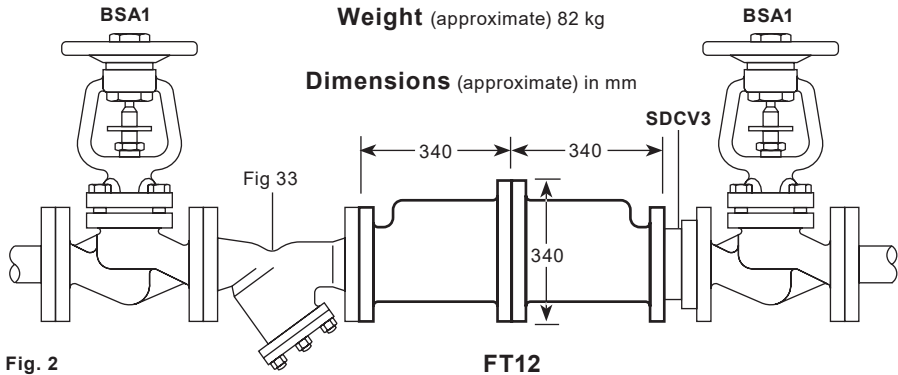

Fig. 2
- 3.4** The trap is designed for installation in a horizontal plane. A typical installation is shown in Figure 2. Where air is present as part of the process cycle a separate thermostatic air vent can be fitted in parallel.